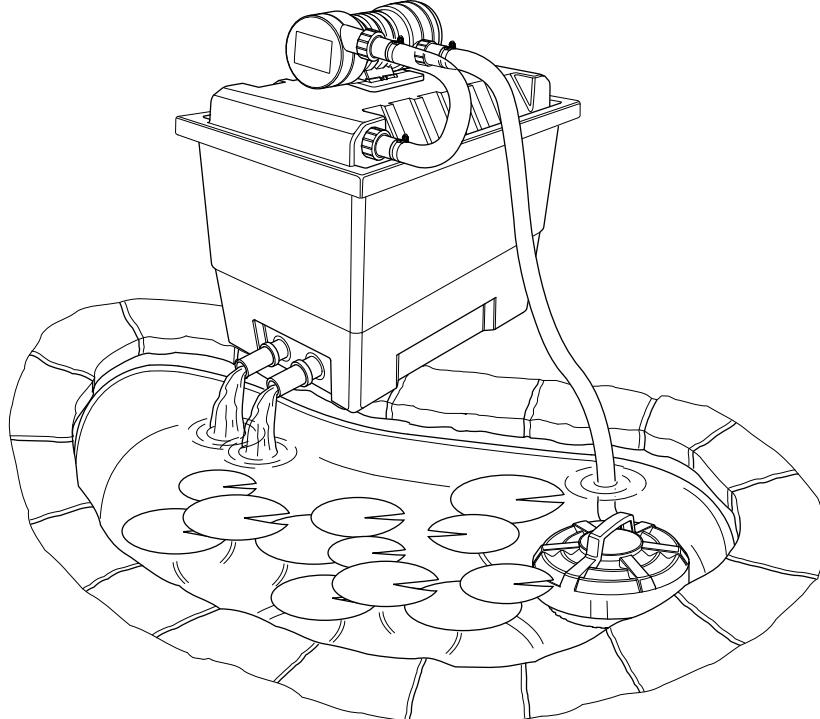

Fig. 1
3.1 The Hozelock Cyprion Vorton UVC can be added to most filter systems before or after filtration, the effect is the same. The water must be pumped through the unit - not gravity fed. A typical installation is shown in fig 1.